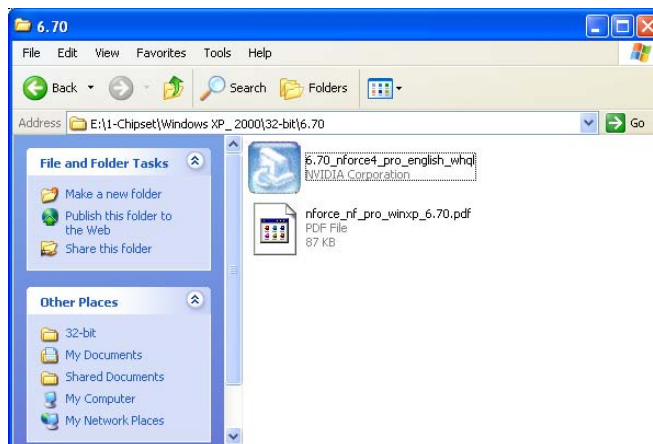

Figure 8-6: Chipset Driver Setup Icon
Step 7: The screen in **Figure 8-6** appears.